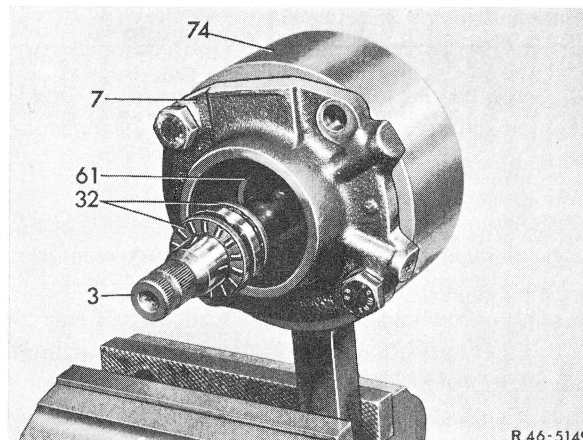

Fig. 3
- 4 Place upper axial cyl. roller cage (32) on steering worm (Fig. 3).